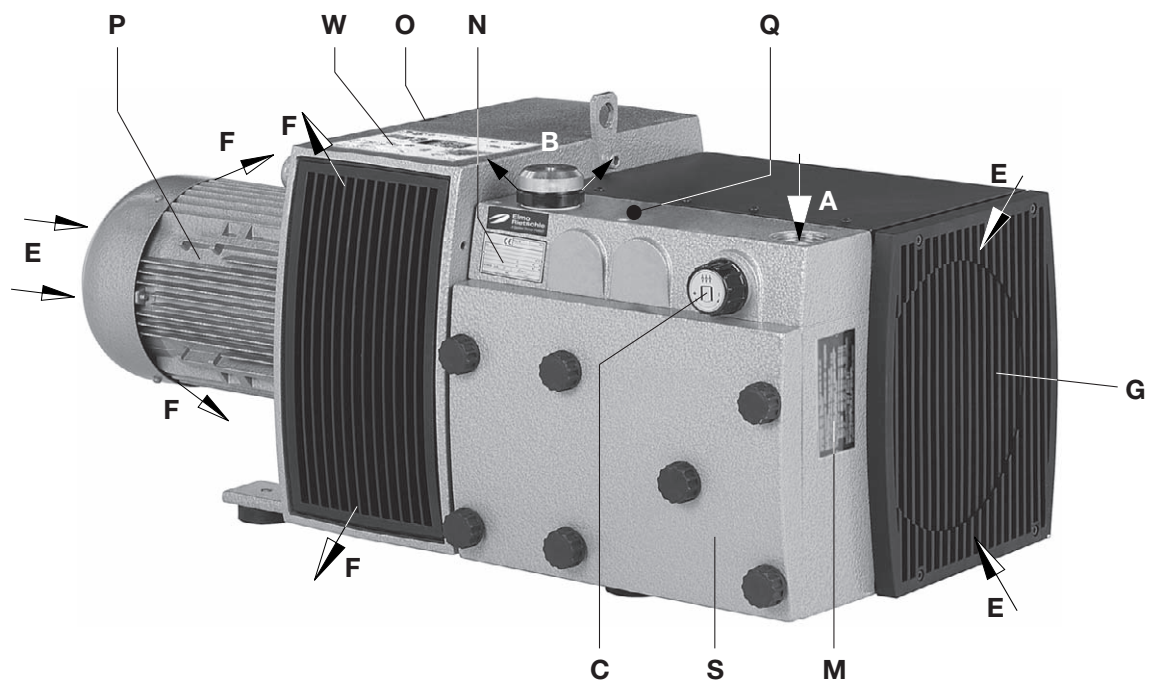

Fig. 2 Vacuum pump V-VTR 100 / V-VTR 140
A vacuum regulating valve (Fig. 2/C) is used to set the vacuum to the required values with an upper limit.
The filter housing (Fig. 2/S) should be easily accessible. The cooling air inlets (Fig. 2/E) and the cooling air outlets (Fig. 2/F) must be at least 30 cm away from adjacent walls. Cooling air coming out must not be sucked in again.. or maintenance work there must be a minimum of 40 cm in front of the filter housing (Fig.. 2/S) and the inlet grating (Fig.. 2/G).
- a) Vacuum connection at (Fig. 2/A)
The vacuum can be set by turning the control knob (Fig. 2/C) as shown on the symbol fitted to the button.
- a) The motor's electrical data is given on the data plate (Fig. 2/N) or on the motor data plate. The motors comply with DIN EN 60034 and are in protection class IP 55 and insulation class F. The appropriate connection diagram is located in the motor's terminal box (not for the plug connection version). Compare the motor data with the data of the existing mains network (current type, voltage, network frequency, permitted current value).
When the machine is at operating temperature the surface temperatures on the components (Fig. 2/ Q) may go above 70°C. You must avoid touching the hot surfaces (marked with warning plates).
- ▷ The drive shaft direction of rotation is shown by the rotation direction arrow (Fig. 2/O) on the motor flange.